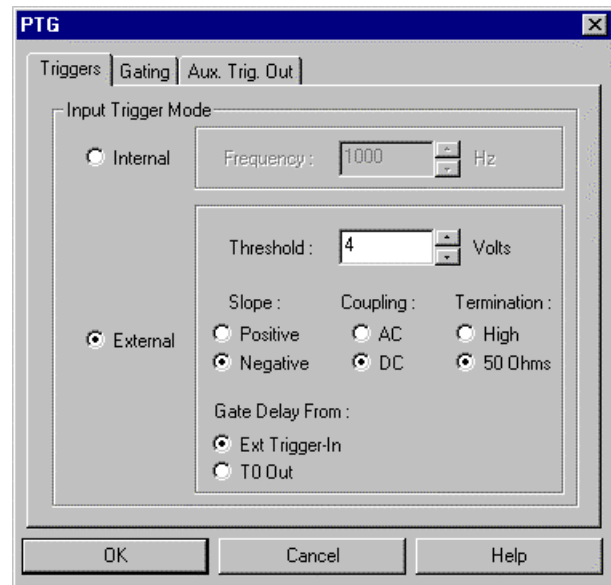

Figure 161. PTG Triggers tab page
3. Select **PTG**. Then click on the **Setup Pulser** button. The PTG dialog box (Figure 161) will open. *If PTG is grayed out on the **Pulsers** dialog box, PTG support has not been installed.*